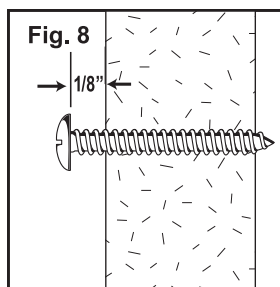
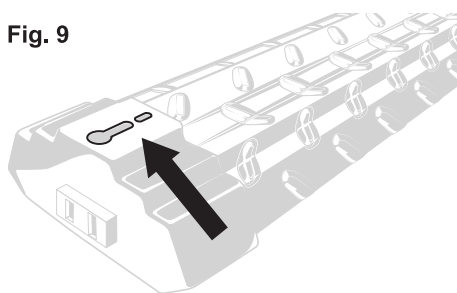
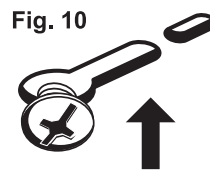
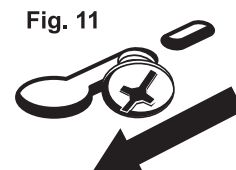

Fig. 8
Fig. 9
Fig. 10
Fig. 11
2. Fasten the mounting screws, leaving 1/8" between the surface and the back of the screw head (**Fig. 8**). Locate the key hole slots located on the end caps on the top of the fixture (**Fig. 9**). Gently lift the fixture up to the mounting screws until the screw heads pass through the large round ends of the key hole slots (**Fig. 10**). Slide the fixture either left or right to until the screw heads are captured in the key hole slots. (**Fig. 11**). Verify the fixture is secure, if not, remove, tighten each screw 1/4 turn and re-attach. Repeat until secure.
Fig. 10 and 11 demonstrate how the keyhole slots engage the screws to capture and hold the fixture as seen from the inside.